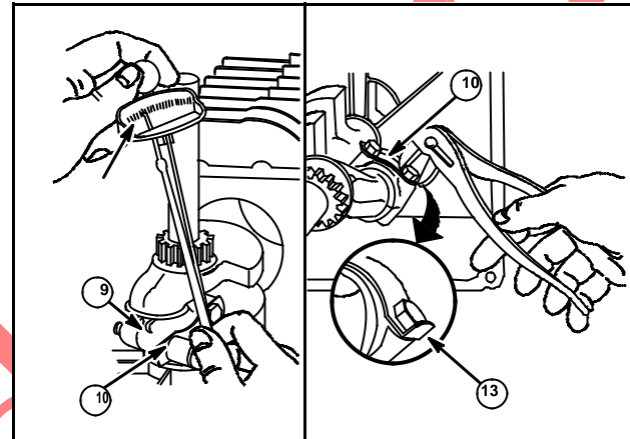

Fig. 20
9. If rod and crankshaft are free, bend rod lock (10, when used) against flats on screw heads (13), Fig. 20.